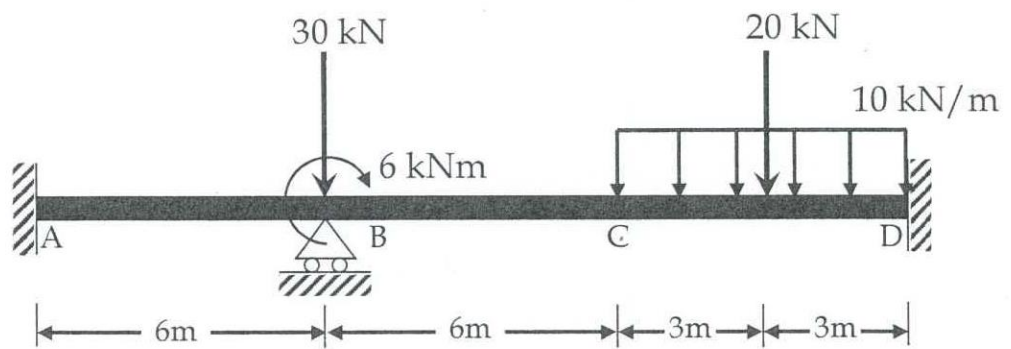

Fig. Q5
b) A beam subjected to different loading is shown in Fig. Q5 and is supposed to be analysed using the finite element technique with three elements as shown in Fig Q5. The Young's Modulus of the beam is E , the second moment of area is I . Consider $EI = 20 \times 10^6 \text{ N/m}^2$.